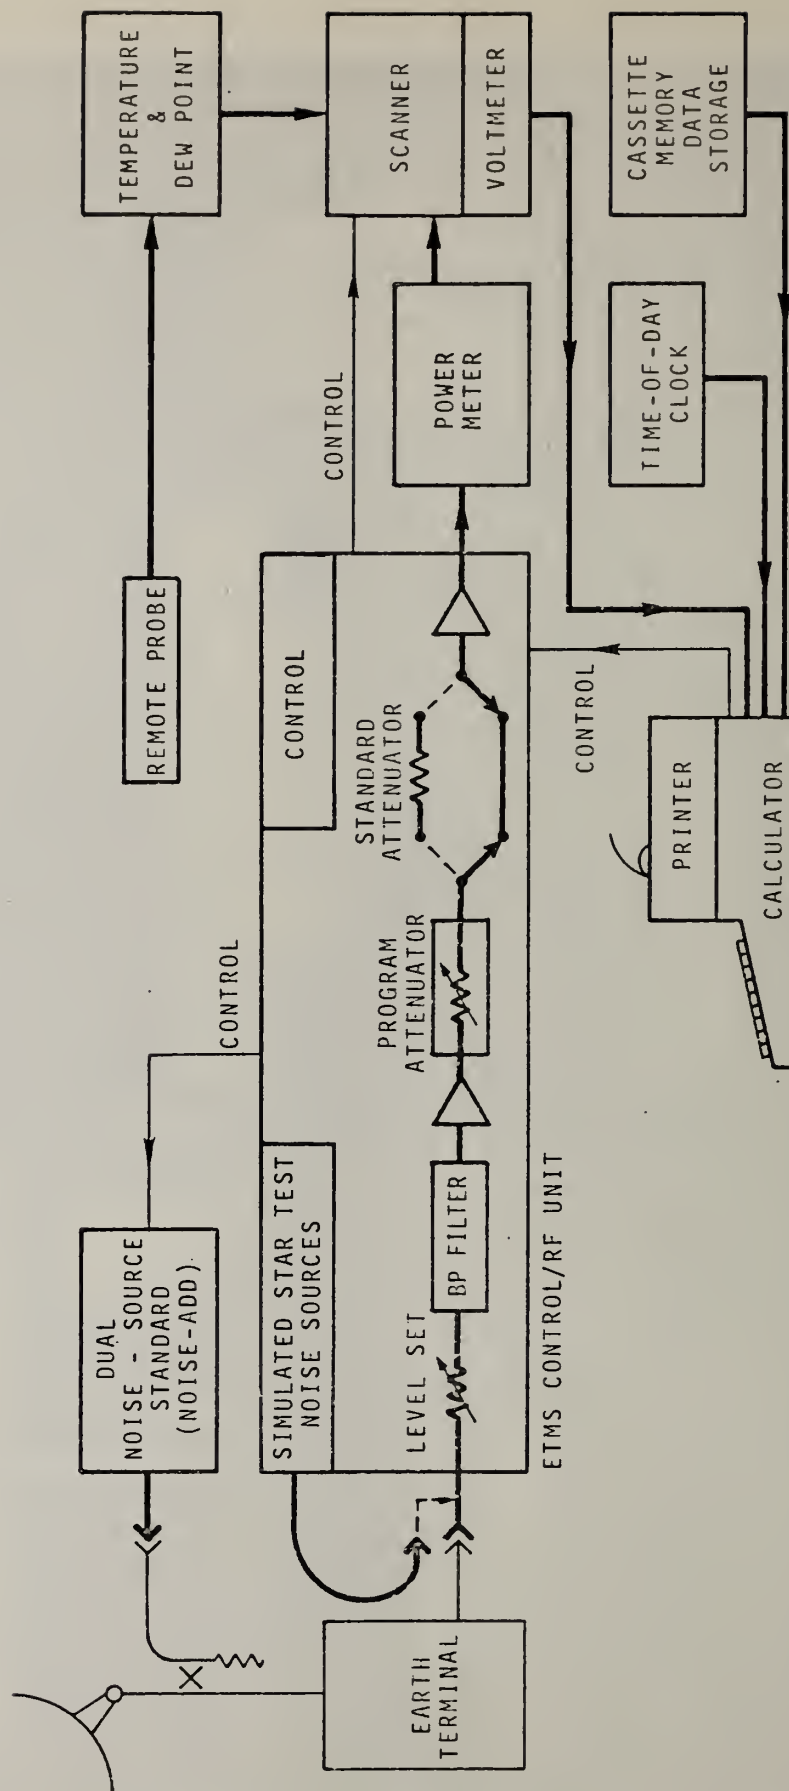

Figure 2. Block Diagram of Earth Terminal and ETMS.
The ETMS operates through the IF patch panel of the earth terminal. The Power Measurement and Control Console measures the power received from the patch panel and operates the remote rf solid-state noise source attached through a cross-guide coupler to the microwave front-end of the earth terminal as shown in figure 2. All measurements are made in pairs, one measurement with the noise source turned off and one measurement with the noise source turned on, and then the two measurements are normalized by the difference between the two powers to minimize the effects of gain variations of the earth terminal.
The ETMS unit consists of eight major components (figure 2): (1) The noise-add standard source with its power supply, which is attached to the cross-guide coupler at the antenna low-noise amplifier input; (2) the ETMS control/rf console which plugs into the IF patch panel (this unit also requires two coaxial cables which go up to the antenna rf-plate to remotely control the noise-add source); (3) the power-detector unit which is a thermally-isolated commercial thermistor mount and an NBS type IV power-meter; (4) the multi-channel input digital-voltmeter which measures and digitizes the various measurement parameters and monitor voltages in the system; (5) the clock which provides time information to the calculator for predicting star locations; (6) temperature/dew point monitor for calculating water absorption corrections to the star flux, (the temperature and dew point sensors are attached to 30-meter (100-ft) cables so that they may be located outside to monitor outside ambient conditions); (7) the calculator with its printer which provides the operator control interface, control of the measurement process, and calculations of the measurement data; and (8) a cassette memory for storing measurement data.